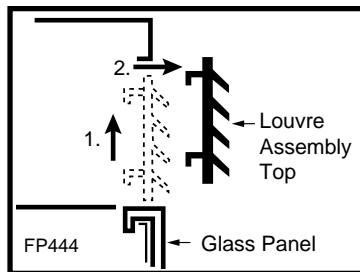
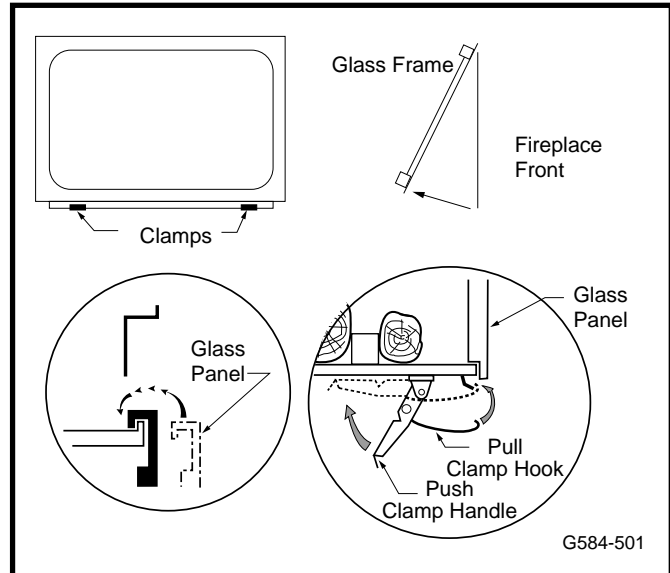

Fig. 9 Remove louvre assembly top.
Fig. 10 Glass panel removal.
To remove louvre assembly top, pull louvre up, then lift out. (Fig. 9) The bottom louvre assembly is hinged at the bottom edge and swings down.
3. Remove louvre assembly top. (Refer to Louvre Removal, Fig. 9)
5. Release the two (2) clamps at the bottom of the window frame by pulling down on the clamp handles.
6. Lift off the window frame assembly as shown. (Fig. 10)